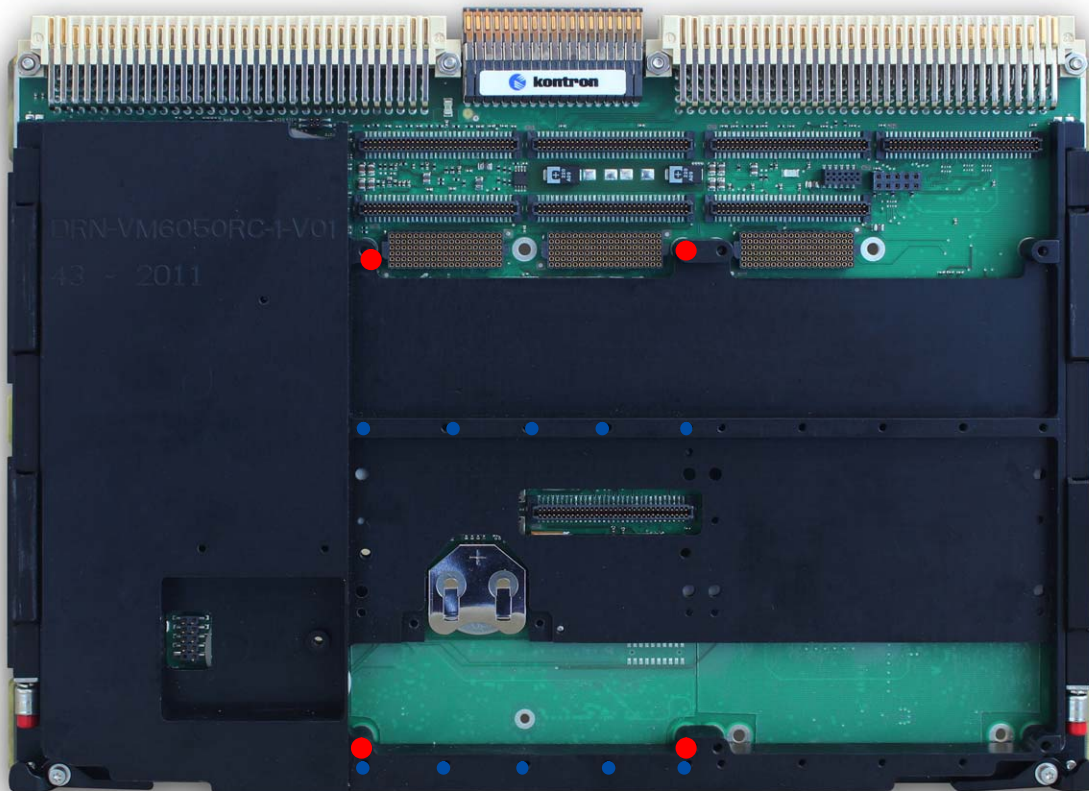

Figure 78: Standard Anchorage Points on VM6050/RC Board
3. Screw the XMC/PMC in place using mounting screws (5+2 at the front of the board, 5 in the middle of the board and 2 at the rear of the board). Tighten with a torque of 0.383 N.m. (3.389 Lb-In). Figure 78 shows the location of the standard anchorage points on an VM6050/RC board.